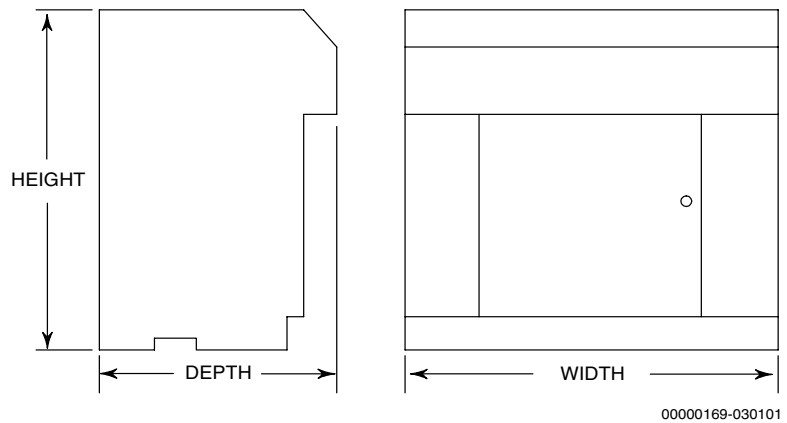

Figure 2-3. Stand Specifications – Game King 13" Upright
- Stand Specifications – Figure 2-3 and Table 2-4